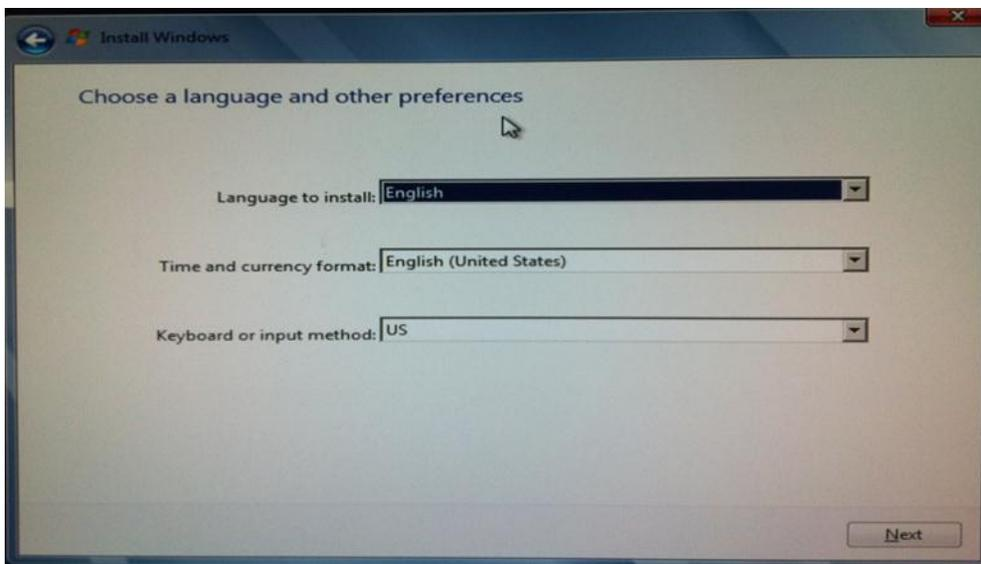

Figure 36: Choose a language and other preferences
6. Select your preferred language and keyboard region as shown in Figure 36.